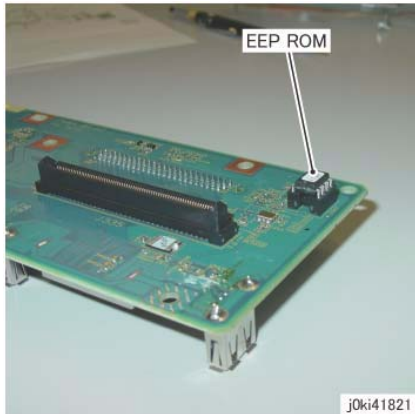

Figure 6 Remove the EEPROM
1. When replacing the BP PWB, remove the EEPROM from the old BP PWB and install it onto the new one. (Figure 6)